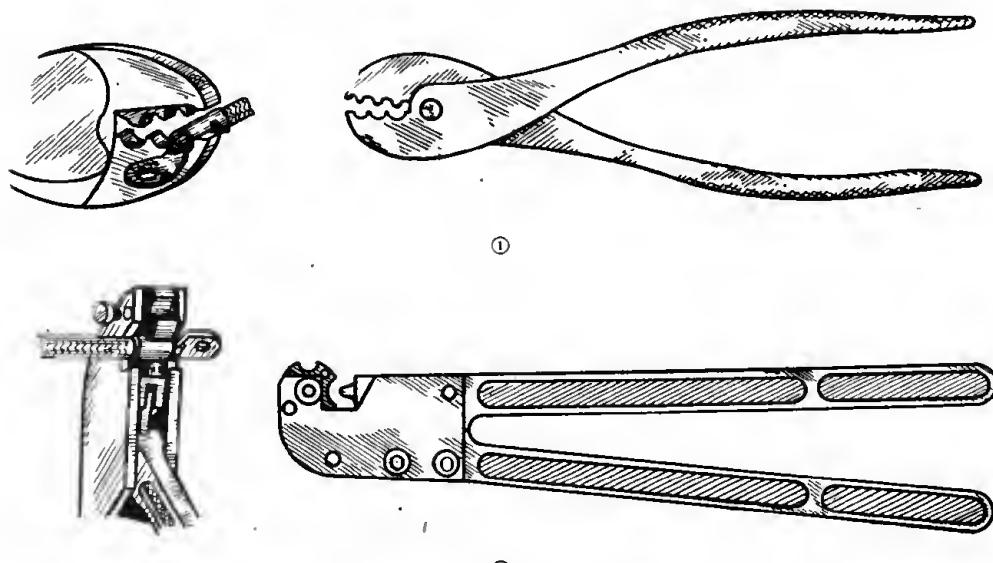

Figure 178. Solderless-terminal staking tools.
f. SOLDERLESS TERMINAL-STAKING TOOLS. These tools are used to install solderless electrical terminals. Two types are shown in Figure 178. The tool shown in figure 178① is used to install terminals on No. 10 or smaller wire. Terminals are installed on No. 8 or larger wire with the tool shown in figure 178②. To install a terminal (fig. 179), skin the